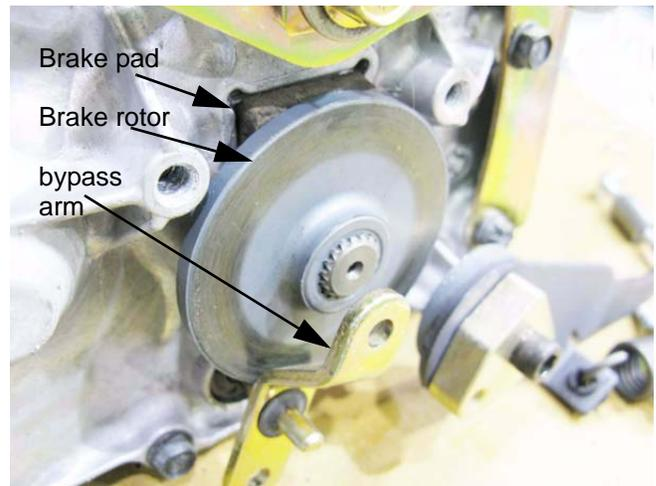

Figure 5.69
7. With the brake yoke removed, the brake rotor floats on a splined brake shaft. See Figure 5.69.